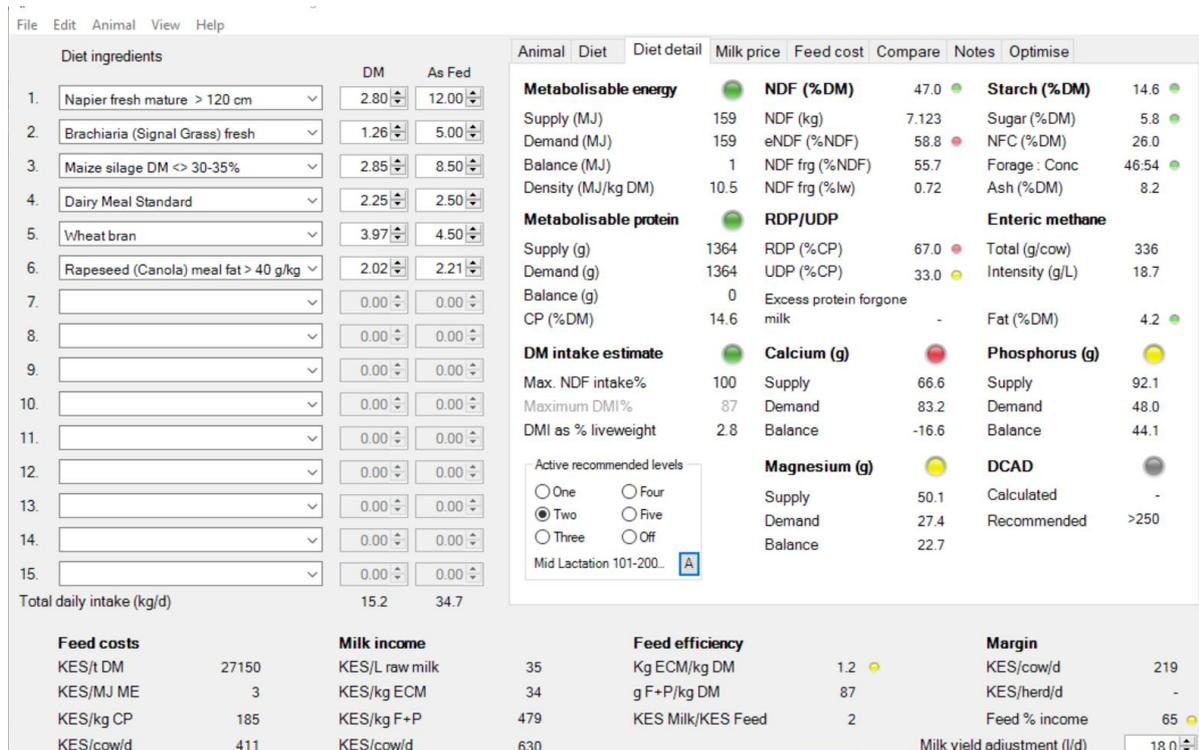
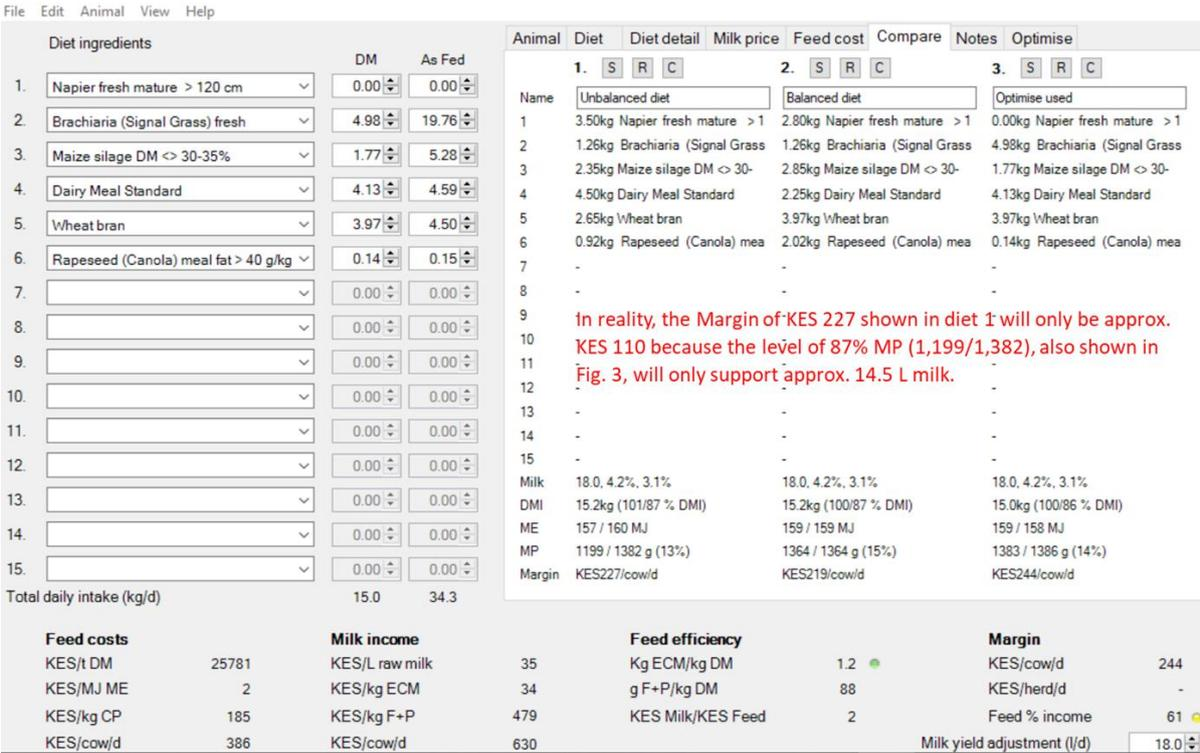

Figure 5. Screenshot of the cow of Figure 3 and Figure 4 in Standard mode; now on a balanced diet
Figure 8. Compare tab; diet 1 is unbalanced, diet 2 balanced manually and diet 3 using Optimise
Figure 5 shows the same cow in Standard mode. The Standard mode shows many more variables, but it requires more experience and expertise to run and interpret it. If you are unsure what the different terms in Rumen8 stand for, hover your mouse over the item and for most items a tool tip will appear providing a more detailed explanation. In Standard mode, the joint tabs for 'Animal/Diet' and 'Cost/Price' are given separately and in more detail. New tabs include 'Diet detail' and 'Compare'. Under the 'Animal' tab, the inputs Live weight change,
The Compare tab is a very useful feature. Here, 3 diets can be stored along with important parameters, including the quantities (as DM) of diet ingredients, percentage of optimal DMI (in the NDF method *and* NRC method), supply and demand of ME and MP and MAFC. This is a handy page to discuss with the farmer and to choose the best diet from (Figure 8). With the S(tore) button, the diet is saved in slot 1, 2 or 3. They can be (R)estored or (C)leared. Sometimes, a tab 'Split herd' is shown to the right of the Compare tab. This facility is rarely used in the tropics and we recommend to un-tick it under <File>, <Preferences>, <General> so it is no longer visible.
In the Compare section of Figure 8, diet 1 is the original diet shown in Figure 3 (Compact mode) that the farmer told us was being fed and achieving a milk production of 18 L. However, if the diet fed indeed is of the quantity and quality entered, then only 87% (1,199/1,382) of the MP demand was supplied, and milk yield is likely to drop to approximately 14.5 L. Diet 2 is well balanced and supports a milk yield of 18 L. Balancing was done as well as possible in Standard mode (Figure 5), and could also have been done in Compact mode. Diet 3 shows that MAFC can be increased by KES 25 (KES 244 minus KES 219) by using Optimise. With an identical ME and MP supply as Diet 2, Diet 3 was KES 25 per day cheaper, showing the strength of the Optimise facility. This does, of course, not hold if the diet ingredients are not weighed well or of a composition different from the ones in the feed library used.